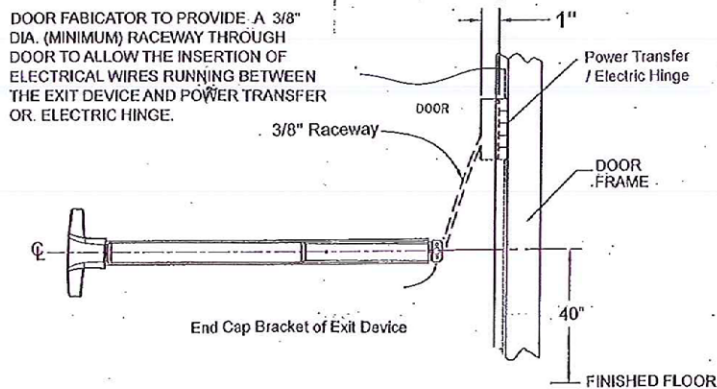
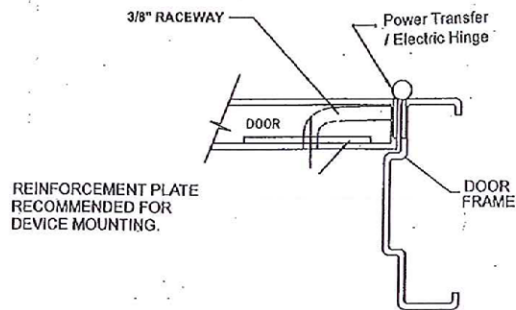

FIG. 2
FIG. 3
- Provide a ϕ 3/8" minimum raceway through the door to allow for routing of electrical wires from the end cap of the exit device to power transfer or electric hinge (see Fig. 2 & Fig. 3).